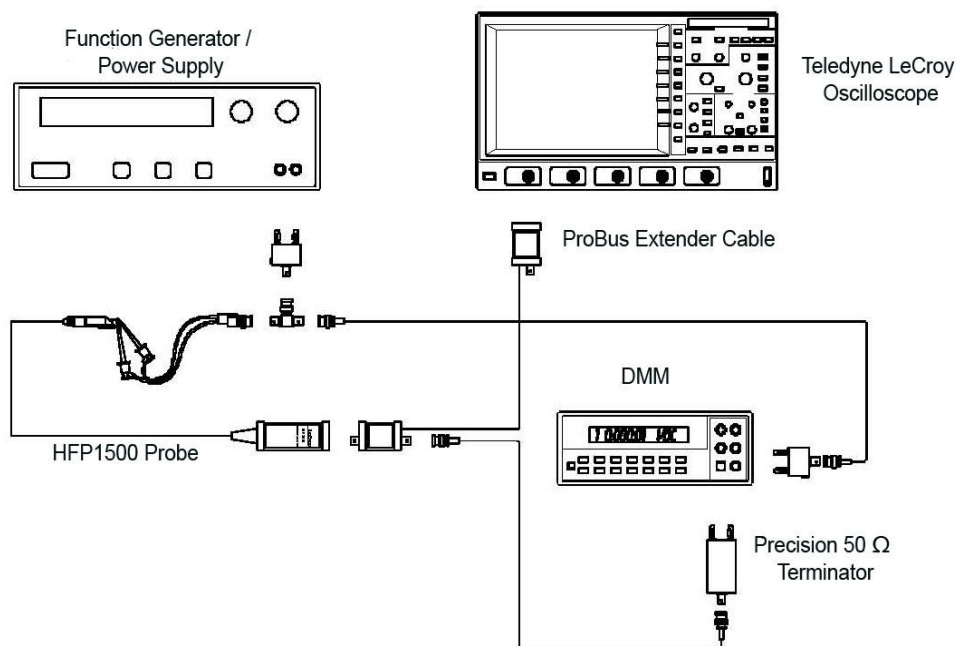

Figure 6 Attenuation Accuracy Test Setup
1. Connect the BNC end of the BNC to mini-grabber cable to a female end of the BNC tee adapter. (Refer to Figure 6 **Attenuation Accuracy Test Setup**).